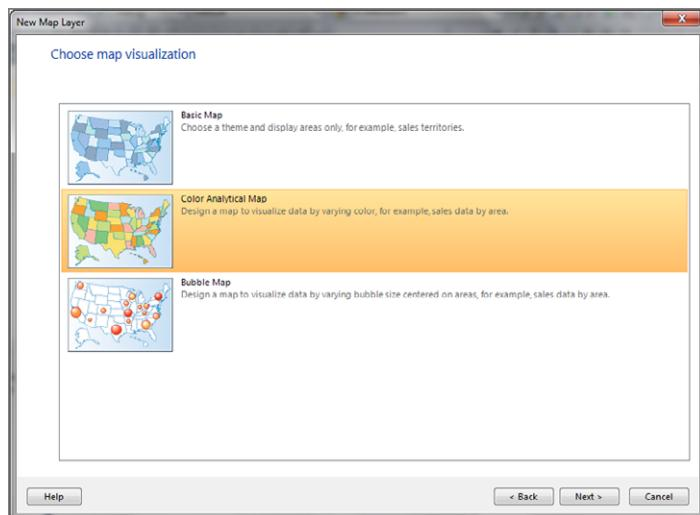

Figure 10-13
3. The dashboard map uses two different layers to illustrate both customer and reseller sales. Customer sales are visualized in a color, analytic, polygon layer and reseller sales use a point layer. Select Color Analytical Map (as shown in Figure 10-13) and click the Next button.